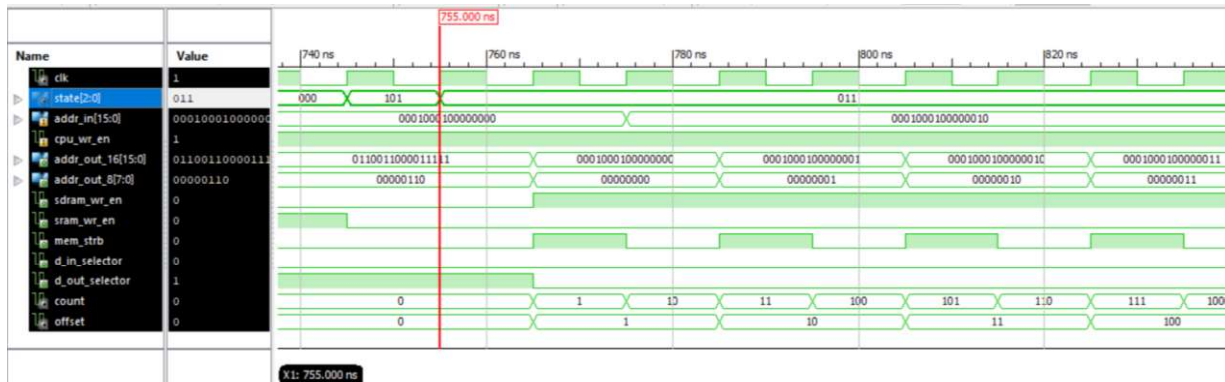

Figure 5.1.4: Block Replacement
Figure 5.1.4 shows the MISS D-BIT = 1 (011) state, where the cache performs a block replacement. The specified block gets written back to main memory from the cache. Notice the memory strobe, address out, SDRAM/SRAM write enable signals reacting accordingly.